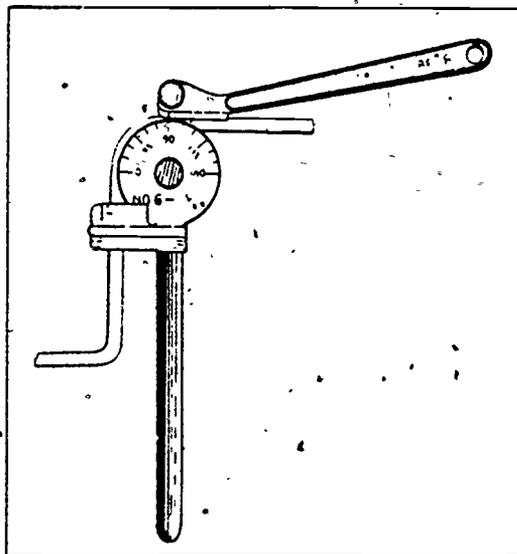

Figure 3-35. Small hand tube bender.
*Tube bender.* The tube bender is designed to shape and form smooth bends in soft copper tubing and pipe without collapsing the pipe. Figure 3-35 illustrates a small hand tube bender. This tube bender is normally used to bend pipe up to 1/2-inch diameter. When